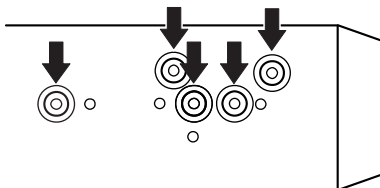

Fig. 16
2. Fastening the unit to the factory radio mounting bracket. (Fig. 16) (Fig. 17)